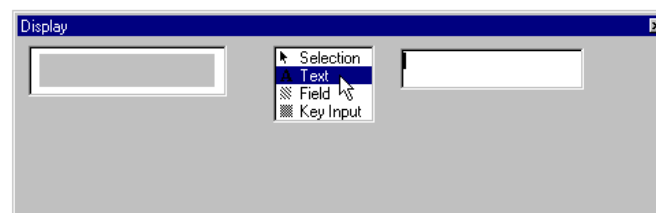

Figure 2-42 Text Tool Selected
1. Click the **Text** tool to select it (Figure 2-42).